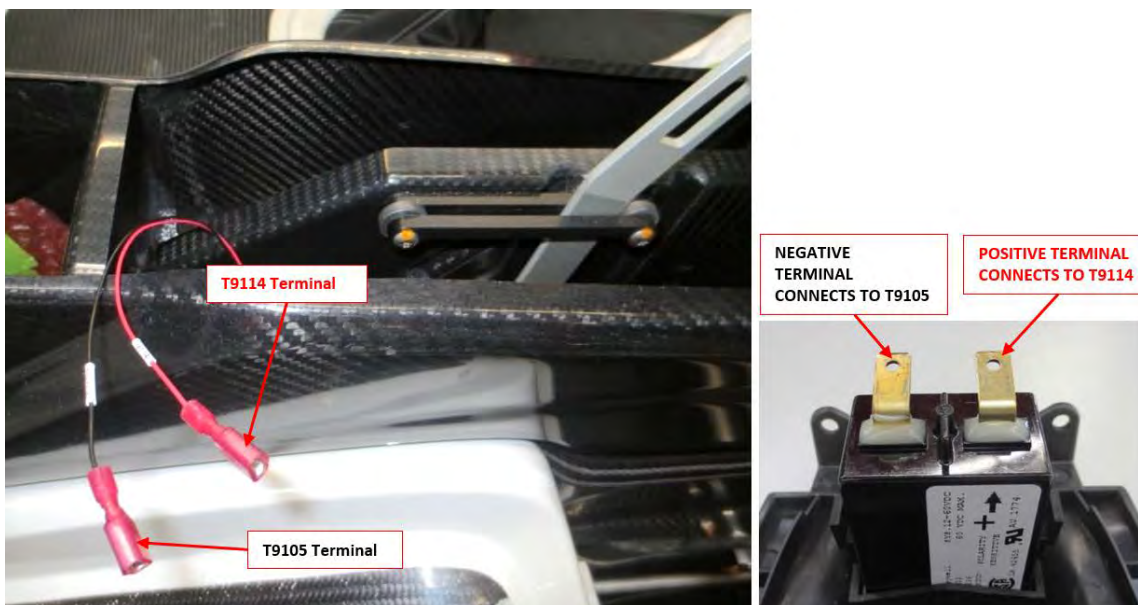

FIGURE 9-10
1. Connect electrical connections as follows, refer to Figure 9-10: